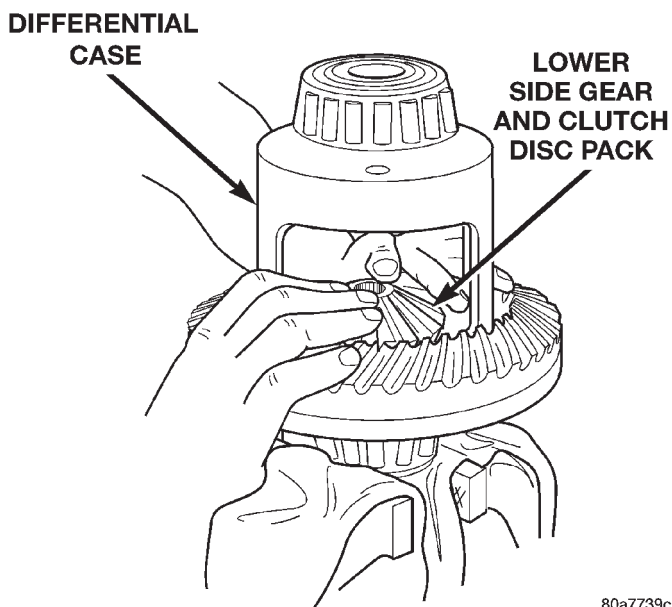

Fig. 62 Clutch Discs & Lower Side Gear Installation
(2) Position assembled clutch disc packs on the side gear hubs.
(3) Install clutch pack and side gear in the ring gear side of the differential case (Fig. 62). **Be sure clutch pack retaining clips remain in position and are seated in the case pockets.**